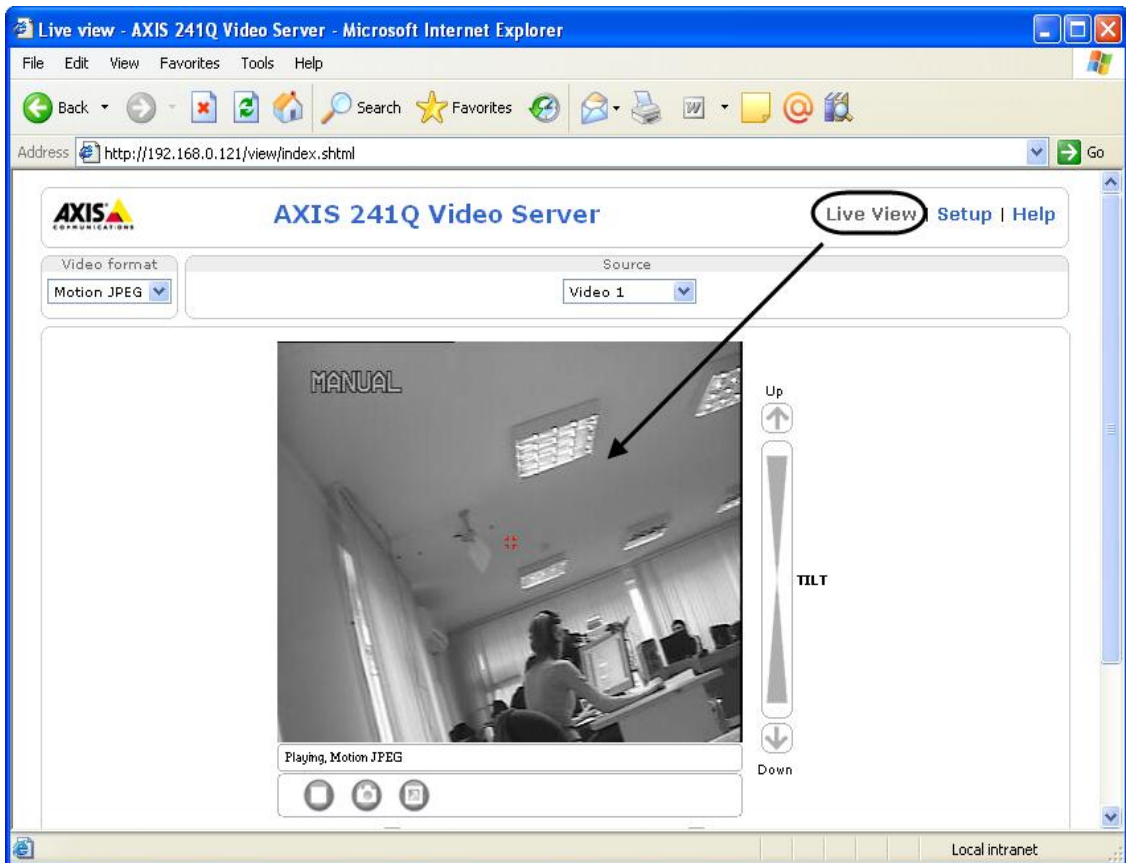

Figure 6.1-12 Surveillance windows displaying an image of an IP camera or one of analog cameras connected to the network server
3. The monitor displays the surveillance window of the IP-camera, if a network camera is used, or one of the analog cameras connected to the network server, if a network server is used (Figure 6.1-12).